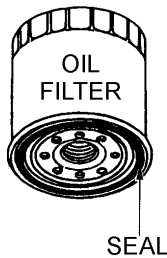

Figure 36. Oil Filter Cartridge
1. Clean oil filter mounting base, and coat oil filter seal (Figure 36) with clean engine oil.